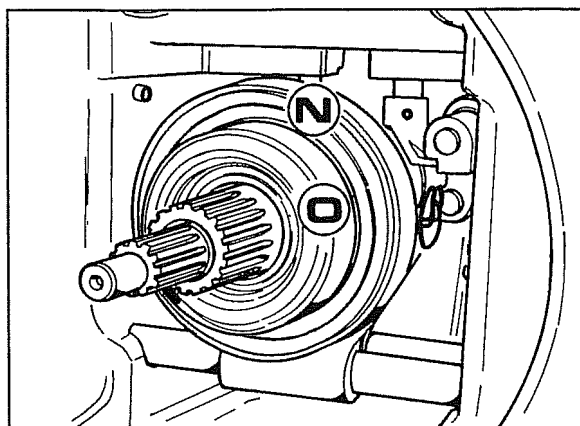

Fig. 26
- Before reassembling the tractor, check to make sure that the two thrust bearings **N** and **O** Fig. 26 are in good condition.